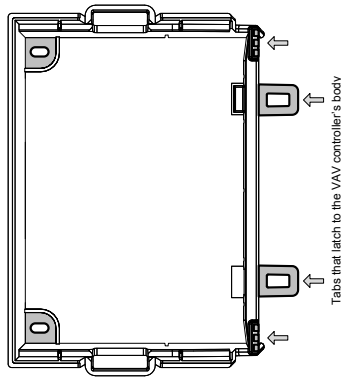

Figure 7: Terminal Cover Attachment Tabs
2. Attach the base of the terminal cover(s) to the underside of the VAV controller's body with the tabs shown in Figure 7 .